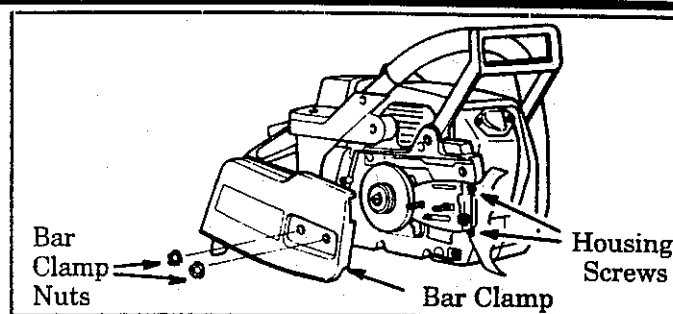

Figure 6
- Set saw upright on a flat surface. Figure 6.
- Remove bar clamp nuts and bar clamp using the bar wrench provided with the unit. Figure 6.
- Remove the two housing screws shown in Figure 6.
- Align screw holes in the spur with the screw holes on the crankcase. Figure 6.